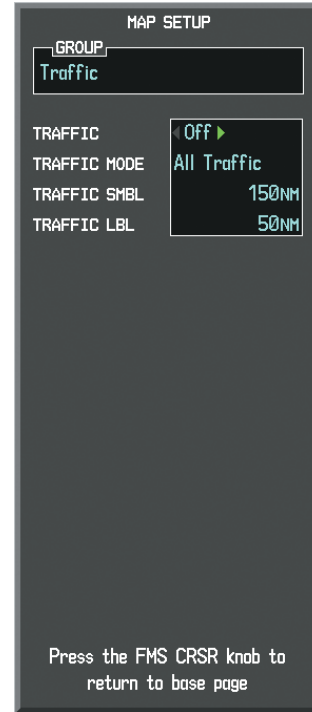

Figure 6-161 Navigation Map Page Setup Menu, Traffic Group
- 5) Turn the large **FMS** Knob or press the **ENT** Key to scroll through product selections (Figure 6-161).